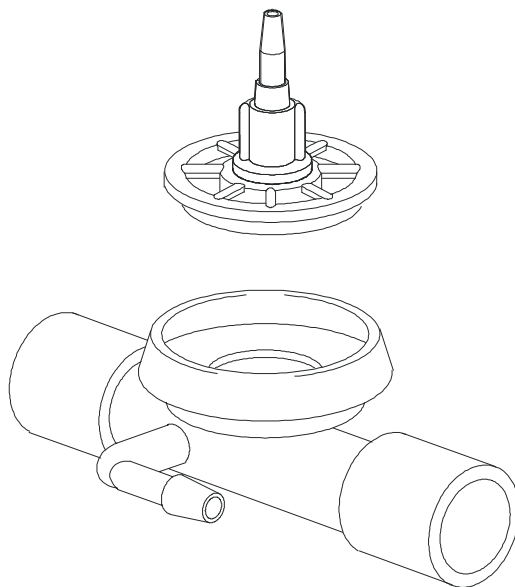

Fig. 3-3 Breas exhalation valve
- Unscrew the complete membrane assembly, see fig.3-3.